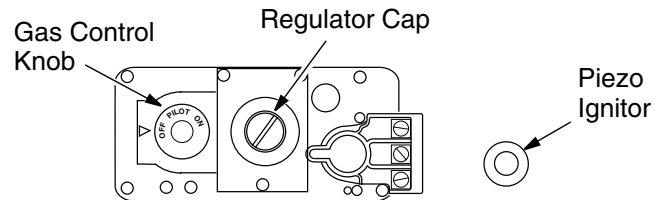

Figure 33 - Control Valve Millivolt
4. Push in gas control knob slightly and turn clockwise to "OFF" (see Figure 33).
5. Wait five (5) minutes to clear out any gas. Then smell for gas, including near the floor. If you smell gas, **STOP!** Follow "B" in the safety information above. If you don't smell gas go to the next step.
8. Push in gas control knob all the way and hold. Immediately light the pilot by repeatedly depressing the piezo spark ignitor until a flame appears. Continue to hold for about one (1) minute after the pilot is lit. Release gas control knob and it will pop back. Pilot should remain lit. If it goes out, repeat steps 5 through 8.